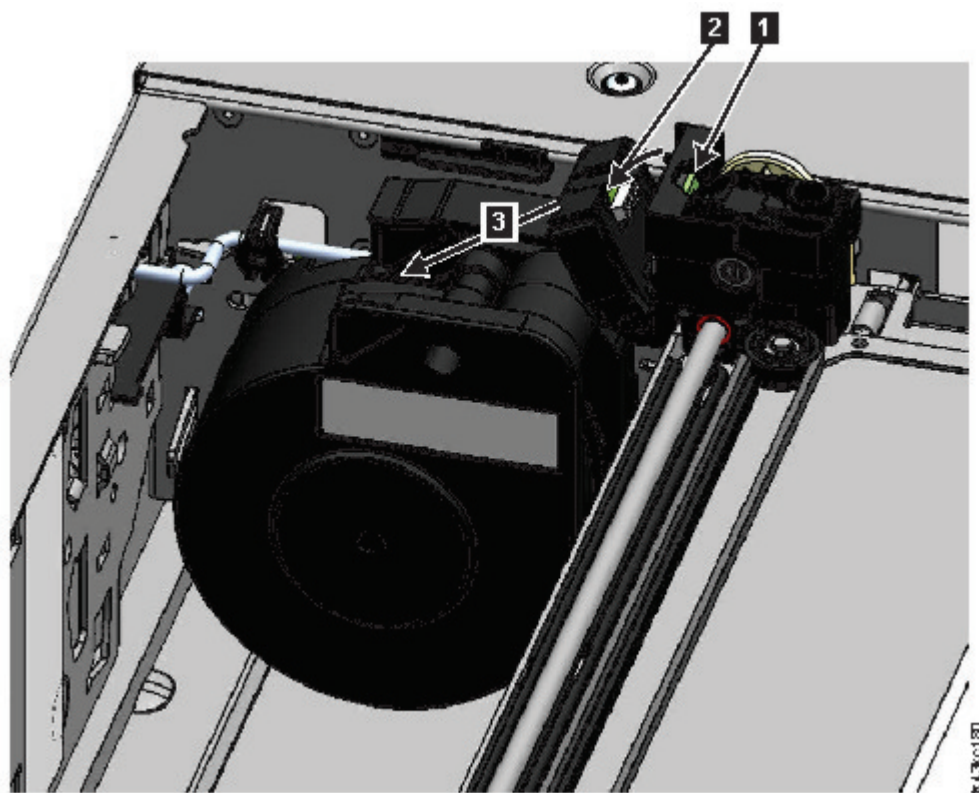

Figure 73. Unlocking the spooling cable and placing it in its cradle
7. On the top of the accessor where the spooling cable is attached, press down on the latch (1 in Figure 73 on page 134), then tilt out the piece that holds the spooling cable (2).
8. Lift the spooling cable from the accessor and place it in its cradle at the top of the spooling mechanism (3 in Figure 73 on page 134).